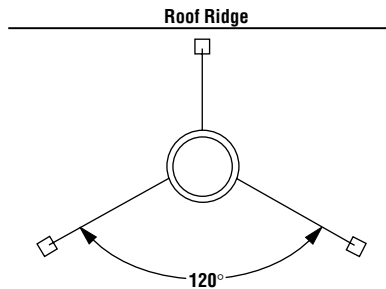

Figure 39
Note: If chimney extends more than 8' (2.4 m) above roof surface, guy wires are also recommended. Use three (3) guy wires, attach to locking band assembly, extend and secure to roof in a triangular pattern (Figure 39). Guy wires are not supplied by the manufacturer.